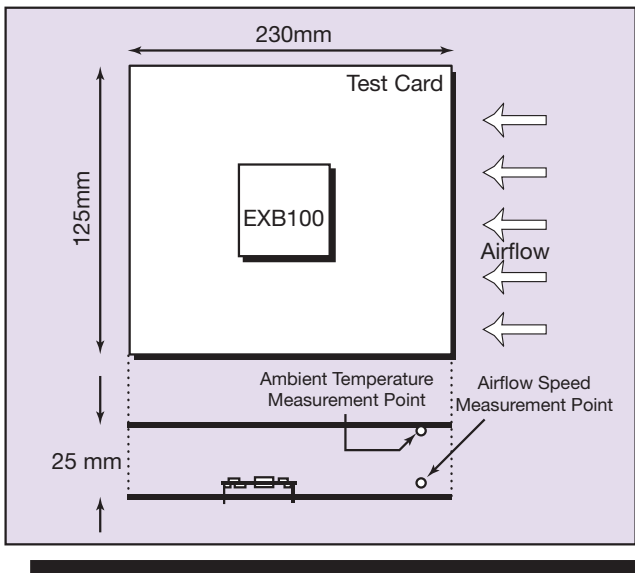

Figure 8 - Airflow Measurement Set-up
To simplify the thermal design, a number of graphs are given in the datasheet. The set of de-rating graphs shows the load current of the EXB100 converters versus the ambient air temperature and forced air velocity. The thermal measurement set-up is shown in Figure 8. The set-up can be summarised as follows,
- The airflow is measured directly in front of the module as shown in Figure 8. The velocity of the air is measured using a vane-probe anemometer. Ambient temperature is measured on the facing card at a distance of approx. 80mm from the module under test. Measuring the ambient temperature closer to the module will result in a higher temperature being recorded due to localised heating caused by the module. This would give the impression that the ambient temperature is higher than it actually is and therefore produce overly optimistic thermal de-rating curves.